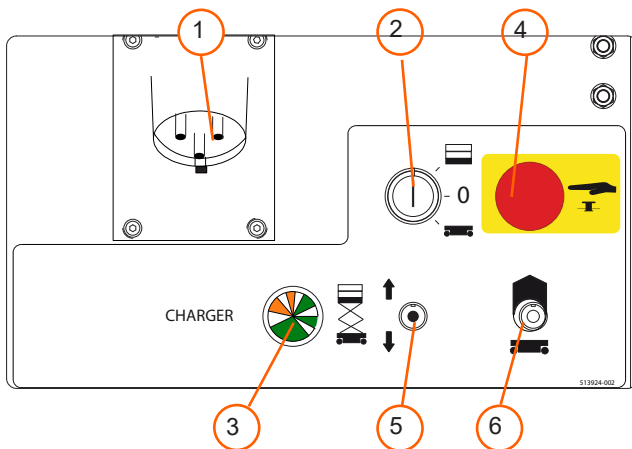

Figure 1 – Lower Controls and Indicators
The lower controls (refer to Figure 1) are located on the left side of the chassis. Only platform functions can be operated from the lower controls.
5. Hold the ground operation switch upward. Test each machine function from the lower control station (refer to Figure 1).